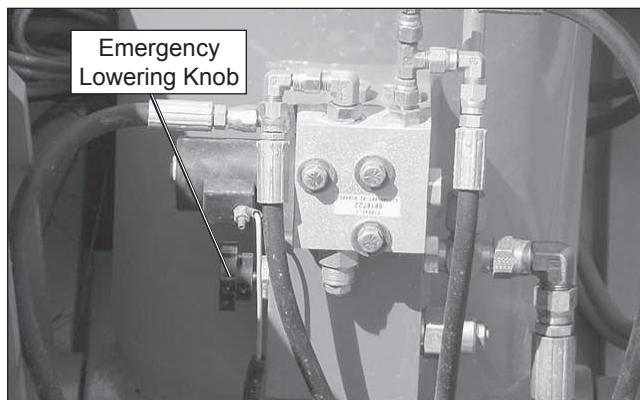

Figure 7.16 – Emergency Lowering Knob
3. Accessing the knob from below the turntable only, slowly turn the knob (refer to Figure 7.16) to open the bleed down valve. The boom should slowly lower and retract by gravity, until boom is almost fully retracted, then it should lower only. If the boom is extended more than a few feet and fails to retract when lowering, remove the machine from service and contact an UpRight authorized service provider.